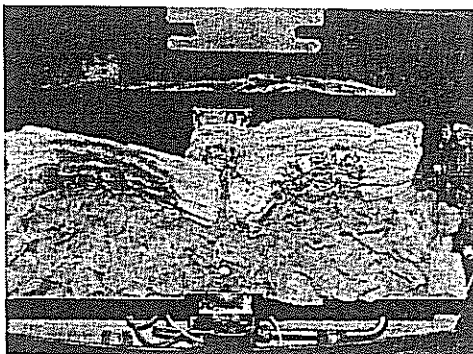

Fig 2. Rear log placement
- (ii) Place the two rear logs at the back of the burner as shown in fig. 2